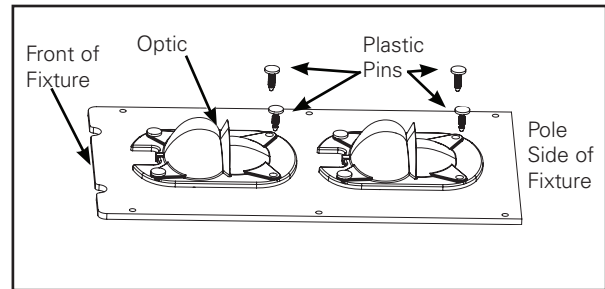
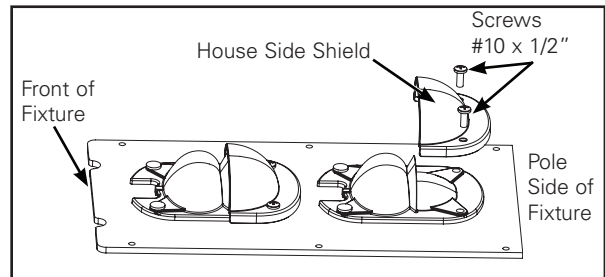

Figure 9.
Figure 10.
House Side Shield (Figure 9. and Figure 10.)
1. Remove plastic push pins on back side of optic. (Figure 9.)
Note: House side shield must ONLY be installed on the back side of the optics as shown. DO NOT install on the other side of the optic. (Figure 10.)